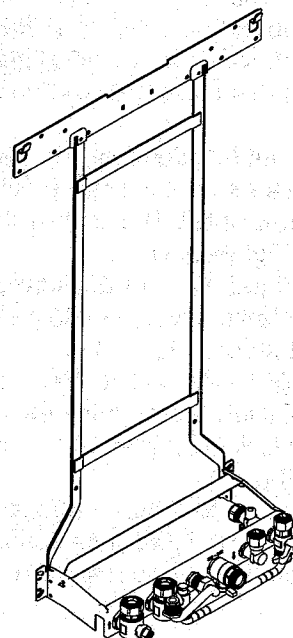

Fig. 6
- a)** Identify the filling/inlet valve (found at the base of the appliance). See fig. 6 & 7.
- b)** The 'filling loop' may have been disconnected from the filling/inlet valve; if so reconnect (fig. 6) unscrewing the caps as necessary.